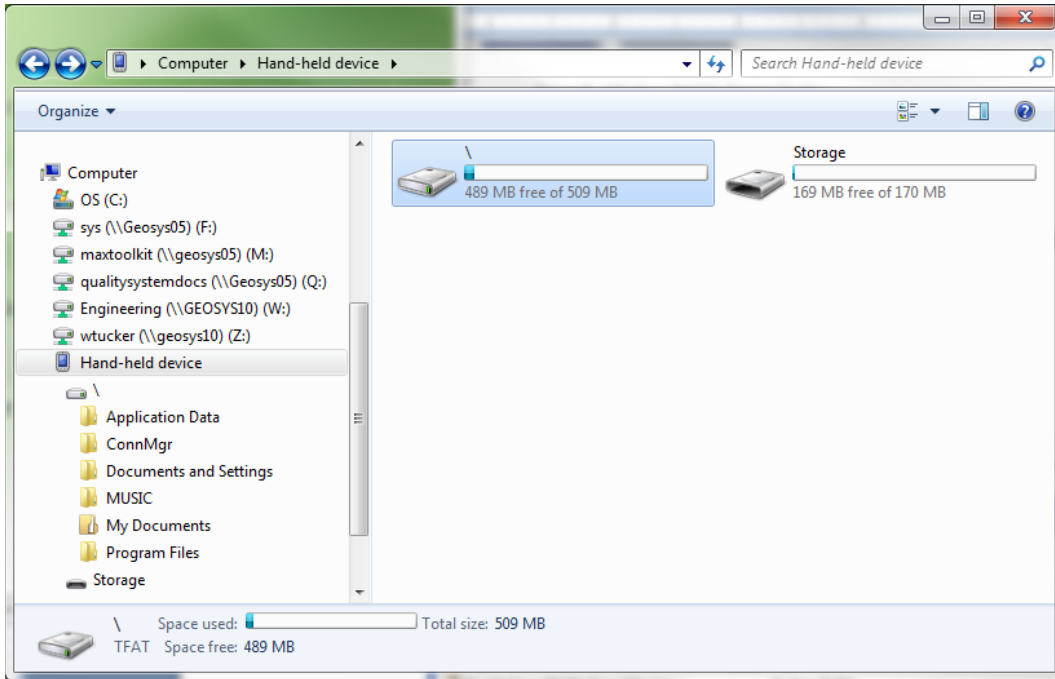

Figure 21 - Windows Explorer Window Displaying HHD Root Folder
- 1) From the Windows Mobile Device Center window on a desktop PC (see Figure 20 above), click on the folder icon labeled “Browse the contents of your device” to call up an Explorer Window for the HHD (Figure 21). The procedure for ActiveSync is very similar.